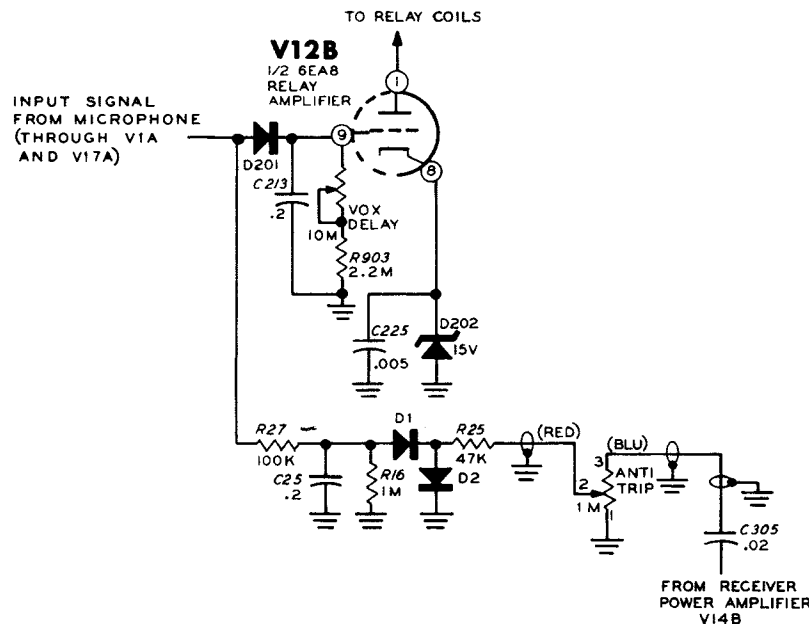

Figure 2-5
**Anti-trip Circuit (Figure 2-5)**